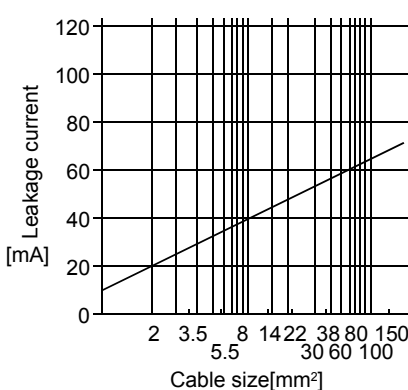

Fig. 14.1 Leakage current example (I_{g1}, I_{g2}) for CV cable run in metal conduit
- I_{g1}: Leakage current on the electric channel from the leakage current breaker to the input terminals of the servo amplifier (Found from Fig. 14.1.)
- I_{g2}: Leakage current on the electric channel from the output terminals of the servo amplifier to the servo motor (Found from Fig. 14.1.)